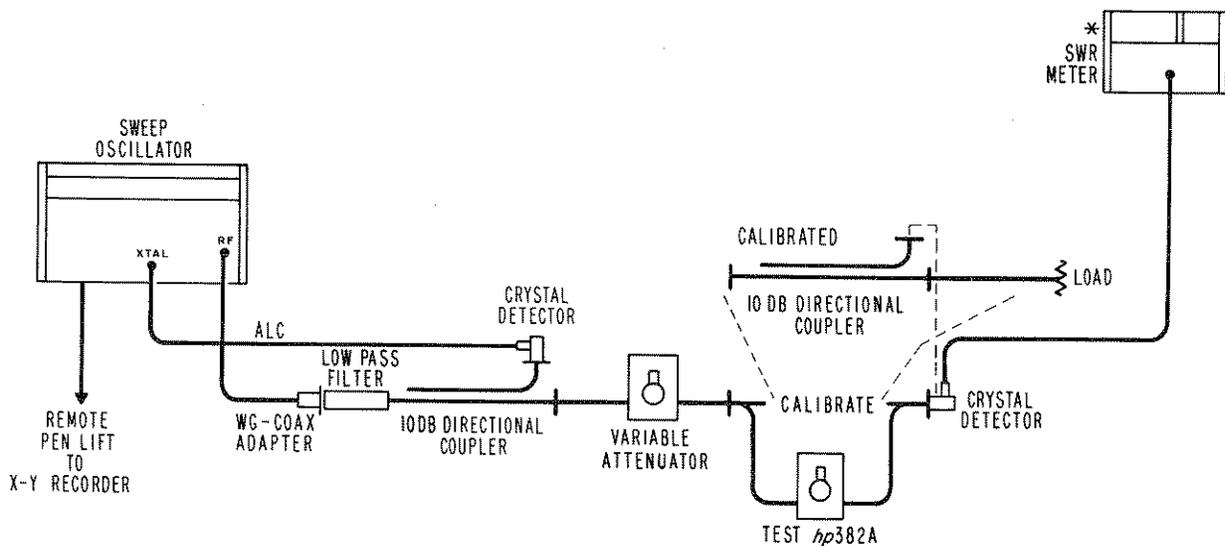

Figure 6. Attenuator Calibration
- a. Connect the instruments as shown in Figure 6.
- b. Remove the Model 382A under test and reconnect the system (marked "CALIBRATE" in Figure 6).
f. Connect input and auxiliary output of Directional Coupler at the point marked "CALIBRATE" in Figure 6 (terminate main line with matched load).